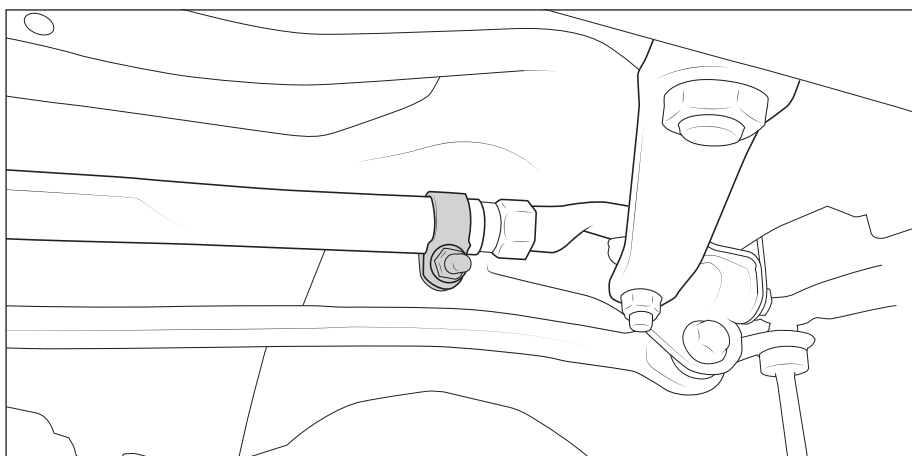

Figure 1
- D. Thread adjuster sleeve and draglink out until separated from pitman arm tie rod (fig. 1).